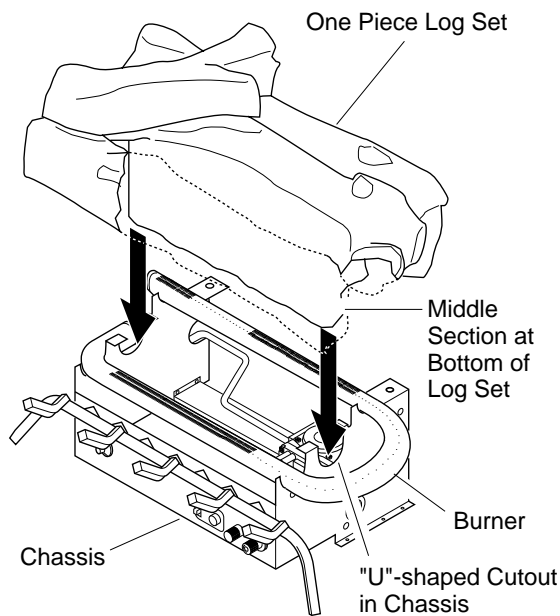

Figure 17 - Installing Golden Oak One-Piece Log Set
1. Place one-piece log set on grate to fit as illustrated in Figure 17. Make sure middle section at bottom of log set is seated into "U"-shaped cutout in center of chassis (see Figure 17). *Note:* 36" model has more features but fits on the chassis the same. Log will fit securely on chassis. *IMPORTANT:* Make sure log does not cover any burner ports.